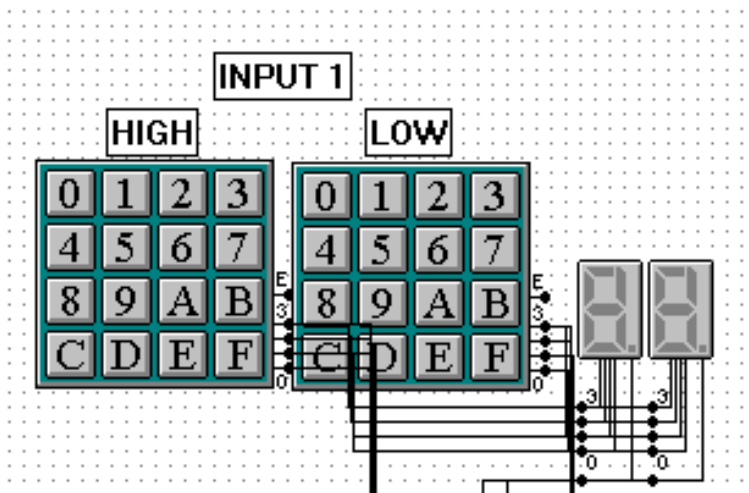

Figure 1: 8-bit Input Device
- **One or Two 8-bit Numbers** - These are the two possible arguments that can be used by any function the ALU completes. Both of these inputs are 8-bit numbers, but they individually are entered as a 2-digit HEX number. These numbers are signed using the two's complement method, so any HIGH hex digit above 7 will have a leading one which will make the number negative. The input for each of these two 8-bit numbers is shown in Figure 1